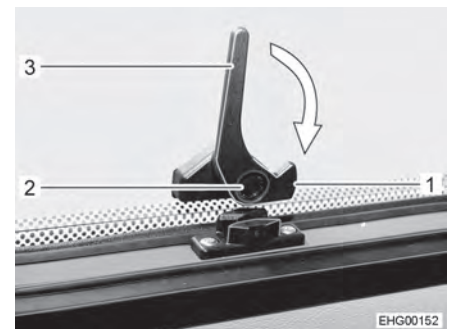

Fig. 39 Catch lever, at the bottom ("open" position)
- Press and hold the safety knob (Fig. 39,2) on the bottom catch lever (Fig. 39,3).
- Turn the bottom catch lever (Fig. 39,3) a quarter turn towards the window frame until the locking catch (Fig. 39,1) engages.